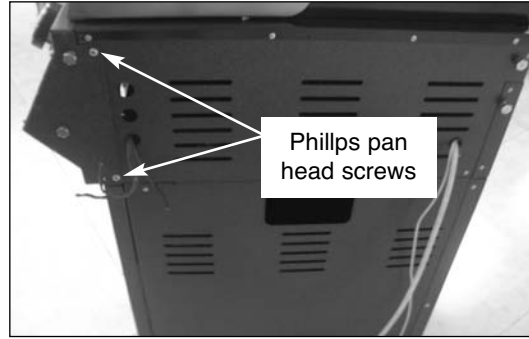

Fig 6
6. Remove the four (4) phillips pan head screws at both sides of the the front control panel. (See Fig. 6)